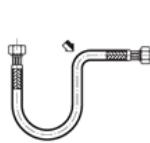

Fig. 3
- screw in the connection hoses (2) and the fixing screw to the tap (5),
- the connection hoses should be screwed in manually; up to the point when resistance occurs. Screwing in the hoses strongly with the use of a flat wrench can result in damage to the hoses. The hoses must be installed according to the pictures shown in figure 3,
- insert the tap with the bottom gasket (6) to the mounting hole,
- put the gasket (4) and the washer (3) on the fixing screw,
- screw in the fixing nut (1) on the fixing screw,